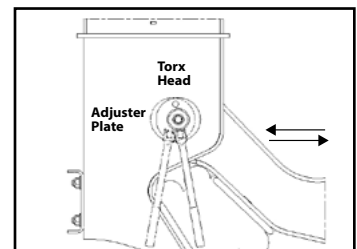

Figure 9. Move beam back-and-forth with breaker bar until axle reaches alignment position.
3. Return to the starting location. Insert a 1/2”-shank breaker bar into the square hole of the adjuster plate at the pivot connection (Figure 9).